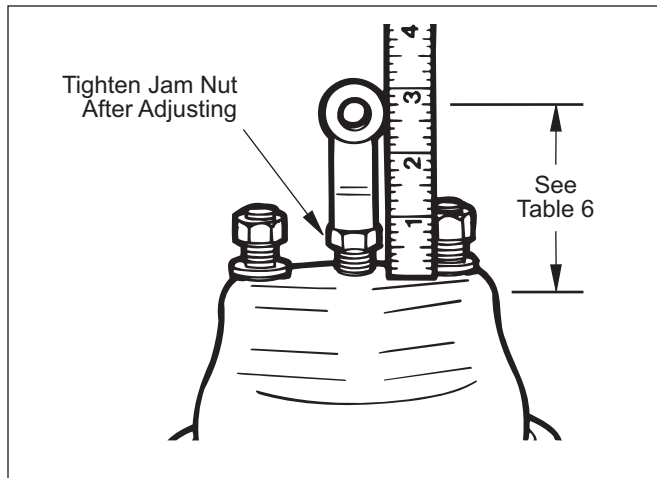

Figure 42. Air Chamber Inspection
2. If air chamber is repaired or replaced, check distance from clevis pin hole centerline-to-air chamber face. Refer to Figure 42 and Table 6 for manual brake adjusters. For self adjusting brake adjusters refer to manufacturers guidelines.